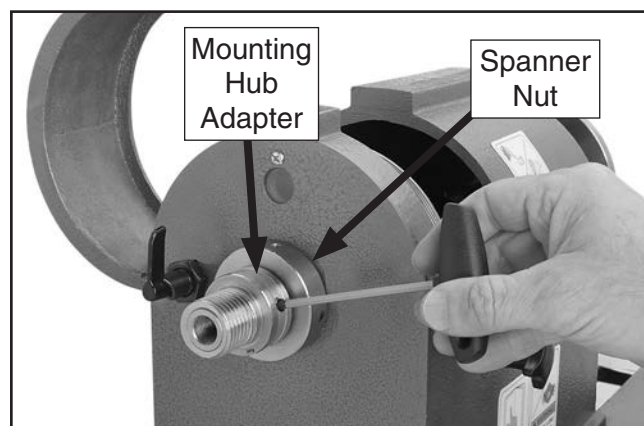

Figure 49. Loosening set screw on outboard mounting hub adapter.
11. Loosen the set screws on the outboard mounting hub adapter (see **Figure 49**). Unthread the mounting hub adapter using a spanner wrench with a 5mm pin, or by placing a 5mm diameter metal rod long enough to be used as a lever into the spanner nut hole.